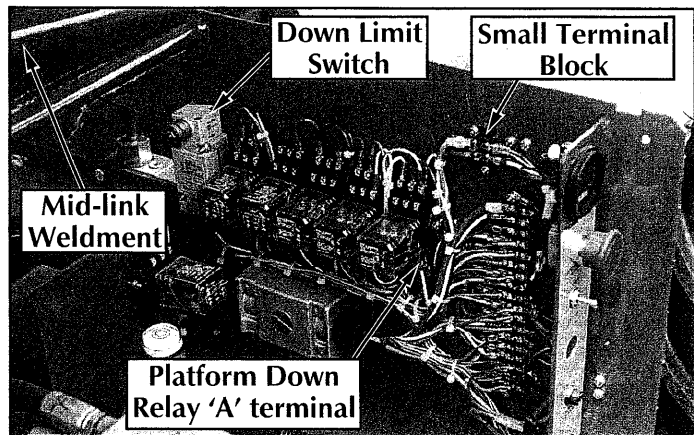

Figure 4-9: Platform Down Limit Switch
### PLATFORM DOWN LIMIT SWITCH (Figures 4-9 & 4-10)
2. Disconnect the black wire on the small terminal block and the white wire connected to the 'A' terminal of the Platform Down Relay (Figure 4-9). Connect an ohmmeter or continuity tester to the wires.